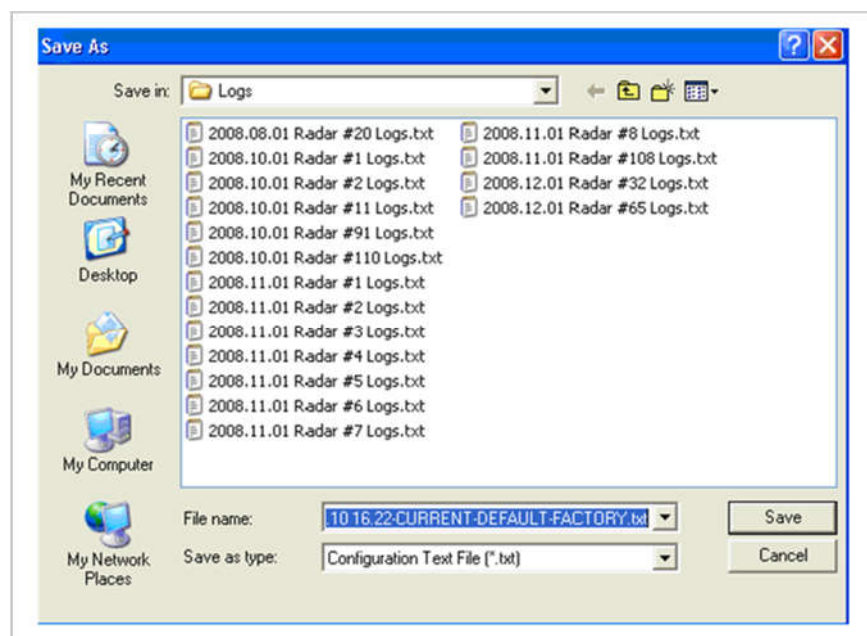

Figure 65 - Exporting Radar Parameters (Step 6)
- Step 6 Click on Save (Figure 65)